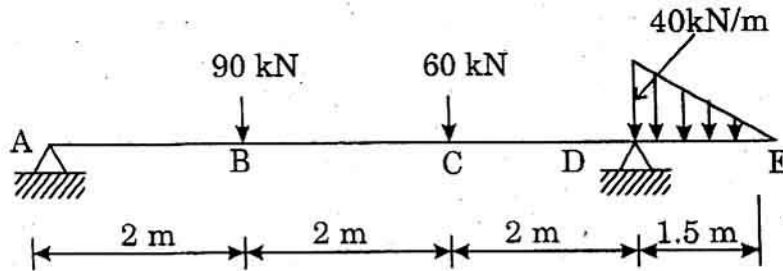

Fig. 1
- (b) Draw shear force, bending moment diagrams for the overhanging beam shown in Fig. 1